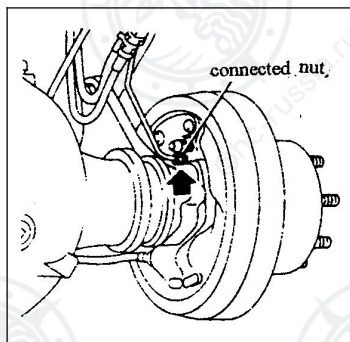

Fig.2-4-2
- 5) Disconnect brake nuts from left and right cylinders.(see fig.2-4-2) .